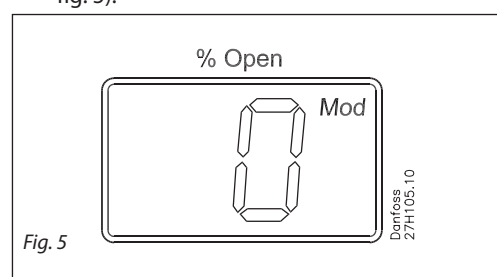

Fig. 5
- The Opening Degree (OD) 0 – 100 % of the ICMTS valve is normally displayed. When the push buttons are not activated for 20 seconds, the display will return to OD (see fig. 5).